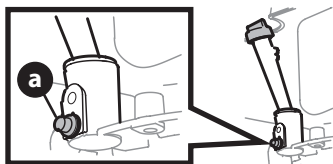

Figure 9
2. Remove oil drain plug (a) and allow oil to drain into a suitable container (Figure 9).